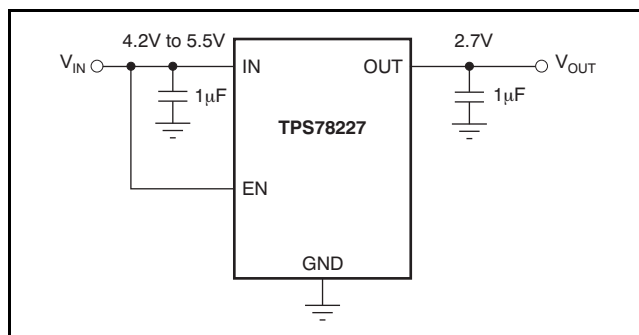

Figure 23. Circuit Showing EN Tied High when Shutdown Capability is Not Required
The enable pin (EN) is active high and is compatible with standard and low-voltage CMOS levels. When shutdown capability is not required, EN should be connected to the IN pin, as shown in Figure 23. The TPS782 series, with internal active output pull-down circuitry, discharges the output to within 5% V_{OUT} with a time (t) shown in Equation 1: